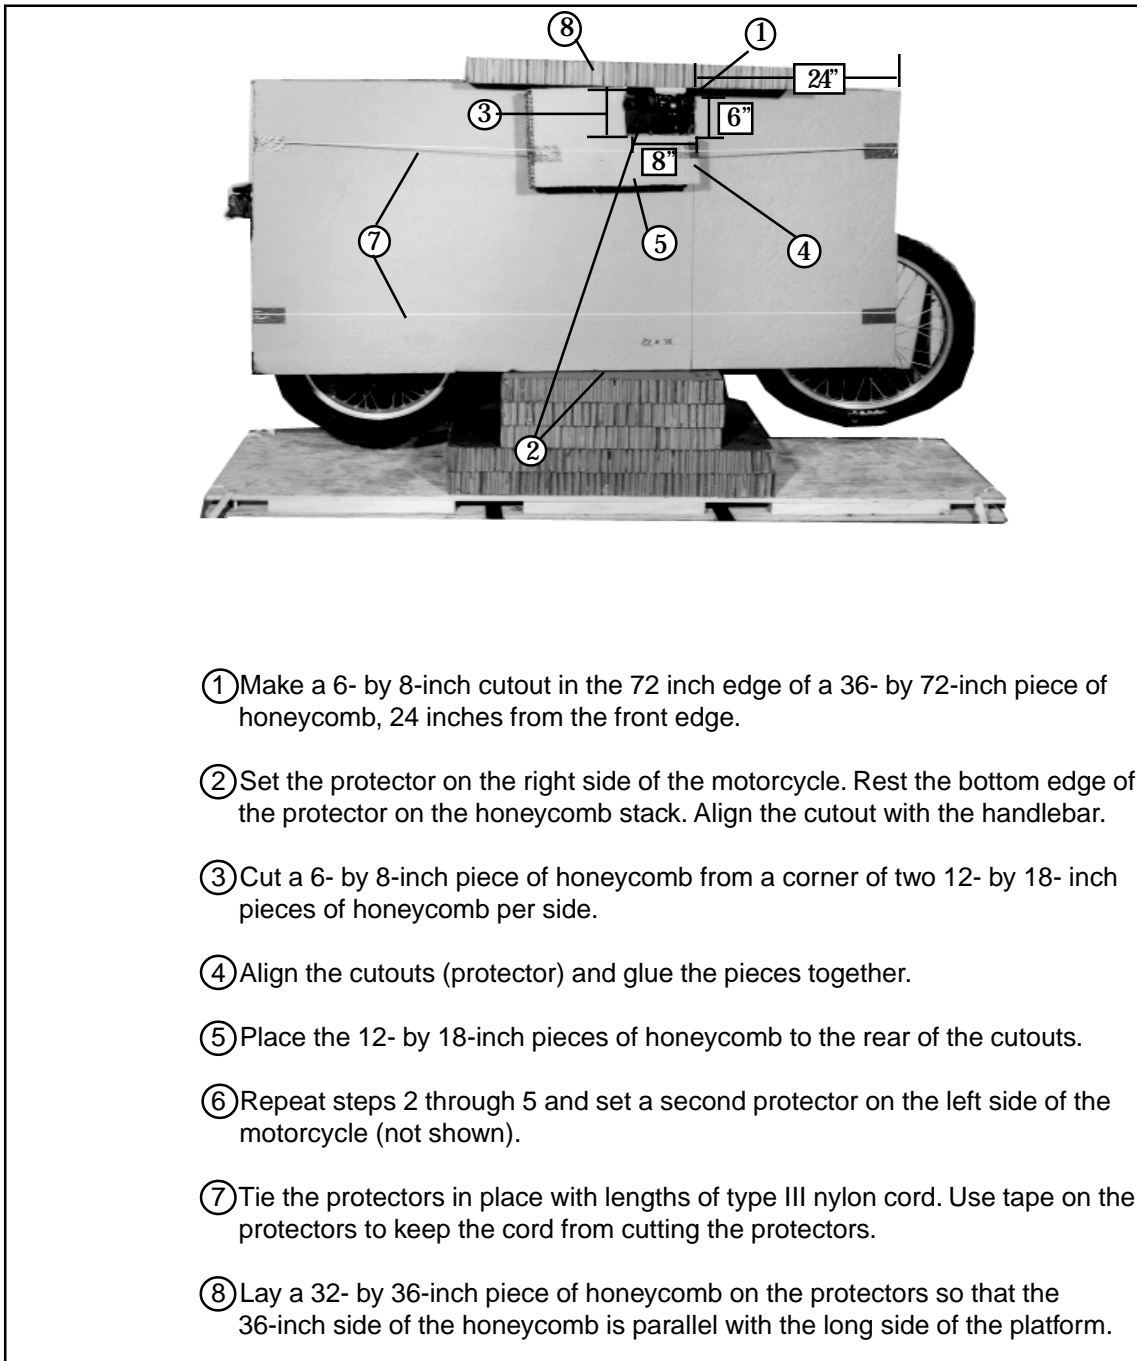

Figure 2-5. Honeycomb Protectors Prepared and Tied to Motorcycle
- Tie honeycomb protectors to the motorcycle as shown in Figure 2-5.